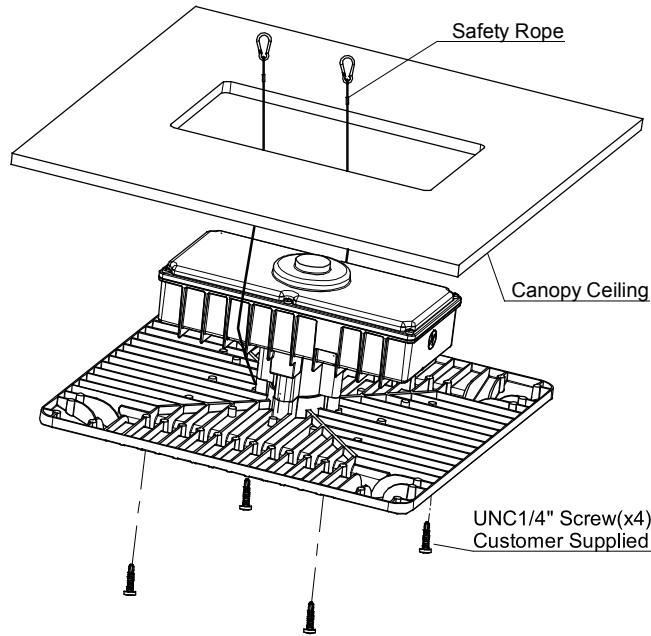

Figure 5
3. Remove Screws A (6) on the driver box and open the Driver Box Cover. See Figure 5.